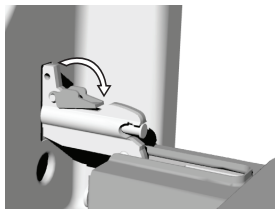

Figure 1
- The guide rack is held in place by two clips. To remove the guide rack, hold it by the lower end and pull towards the center of the oven (fig 1). Make sure that the guide has been released from both clips then rotate inwards (fig 2) to remove from the side of the oven.
- With Soft Close door system, rotate the stoppers back by 90° (Figure 1).